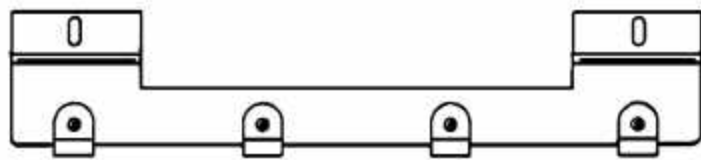

Figure 1 METERING BRACKET ASSEMBLY
3. Install METERING BRACKET ASSEMBLY (Fig. 1,2, and 2A).
2. Remove METERING BRACEKT ASSEMBLY (Fig. 1,2, and 2A).